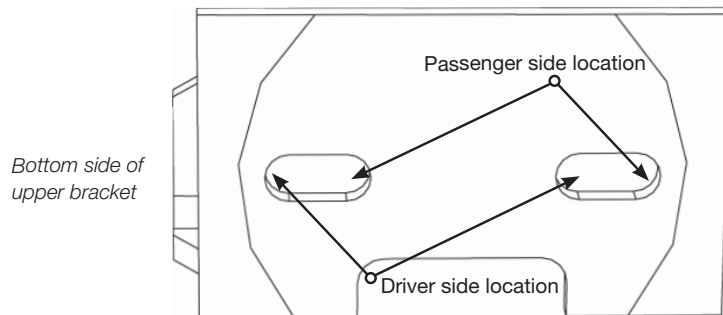

fig. 2
The upper bracket (B) has two slots to use for mounting the bellows and will be specific to which side the assembly is mounted. Figure 2 shows the upper bracket and the correct holes to use for driver side and passenger side installation.
2. Attach the upper bracket to the bellows using the 3/8"-24 bolt (G), lock washer (I) and flat washer (H). Adjust the bracket forward or rearward depending on which side you are mounting the assembly (Fig. 2). Tighten securely.